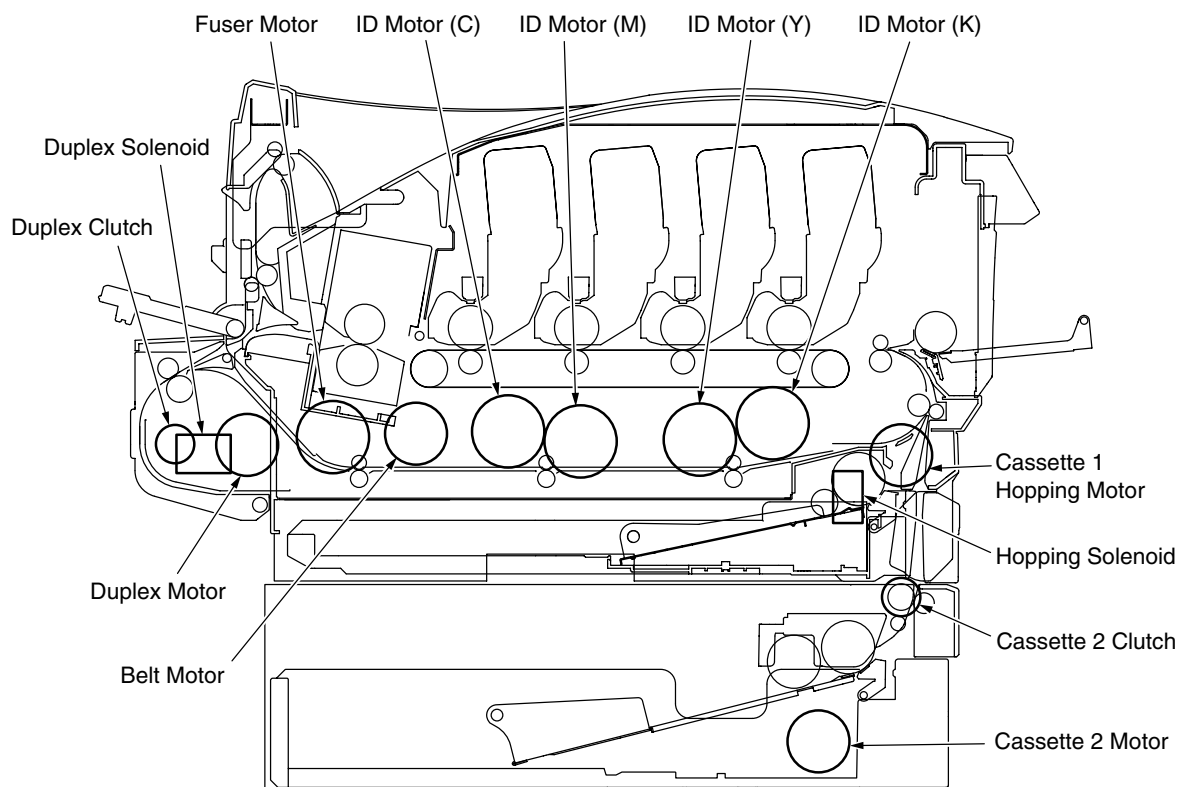

Figure 3-3
3. Pressing the ENTER key starts the test of the unit, blinking the displayed name of the unit. The unit is driven for 10 seconds (refer to figure 3-3).